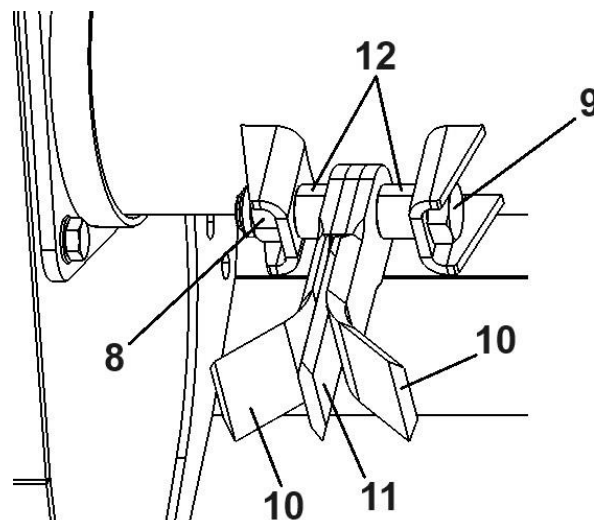

Figure 5. Replacing the cutting blades: 8 – fastening nut, 9 – fastening bolt, 10 – “Y”-type blade, 11 – straight blade, 12 – bushing
- unscrew the nut (Fig. 5, item 8) and remove the fastening bolt (Fig. 5, item 9),
- remove the cutting blades (Fig. 5, items 10 and 11) together with the bushings (Fig. 5, item 12),